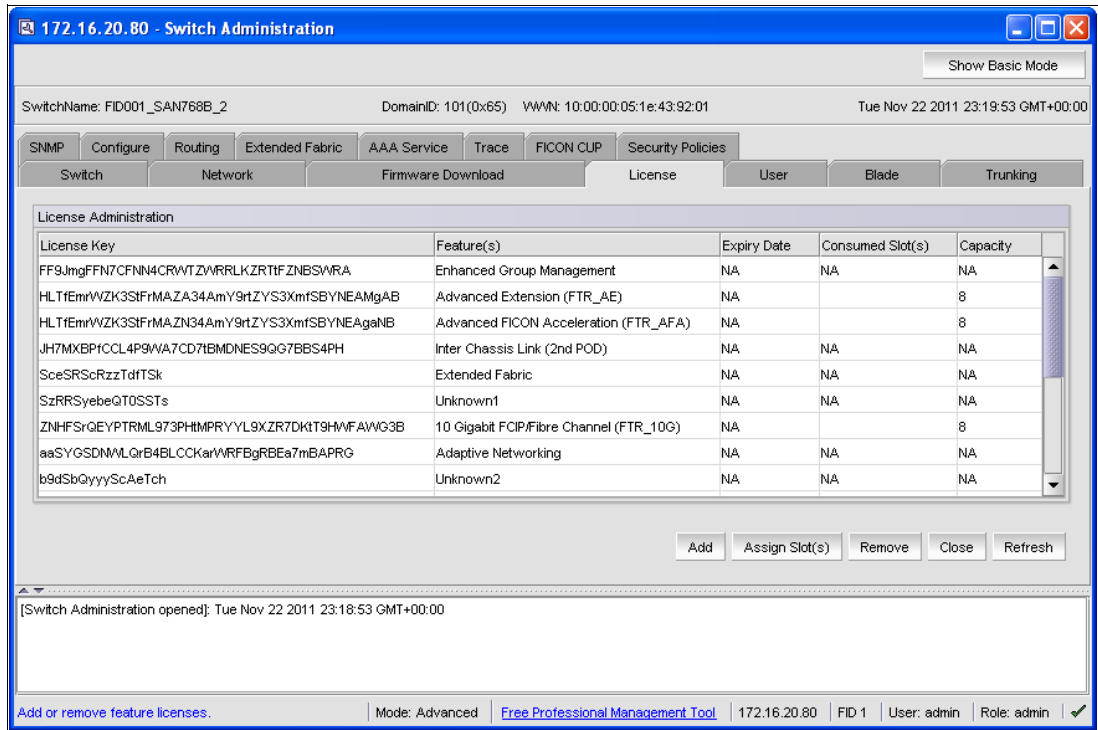

Figure 8-26 License overview
2. Select the License tab, as shown in Figure 8-26 on page 269.